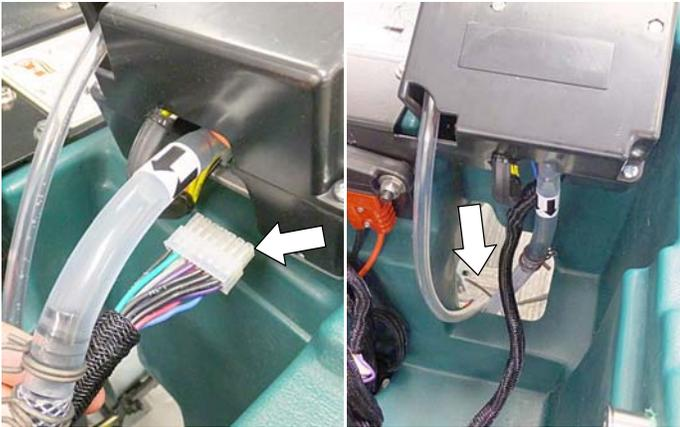

Fig. 36
3. Plug the ec-H2O wire harness connector into module. Route the two ec-H2O module hoses down to the scrub head area as shown (Figure 36).